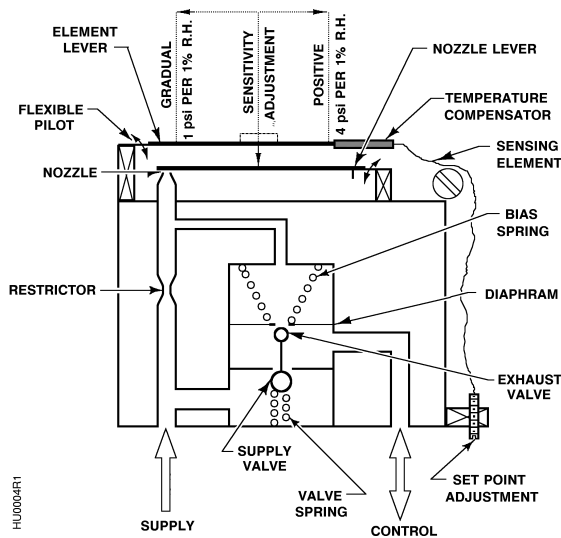

Figure 4. Hygrostat Operation.
Here the basic sensing and lever movement is the same as described above. See *Figure 4*. However, the nozzle is in a different location-on the opposite side of the nozzle lever. Thus a decrease in humidity results in the flapper pulling away from the nozzle and decreasing the control pressure.
Sensitivity will be 4 psi per 1% R.H. at the end nearest the element, down to 1/4 psi per 1% R.H. at the end attached to the flexure pivot. See *Figure 4*. An overtravel spring on the sensitivity adjustment assembly prevents damage to the nozzle on a reverse acting hygrostat.
1. If excessive air leakage occurs and the control pressure does not drop to 1/2 psig when the nozzle lever is pulled away from the nozzle, then there is dirt on one of the relay ball valves. See *Figure 4* in Operation section.
3. Disassembly of the body (19) and base (20) to access the relay is not recommended.